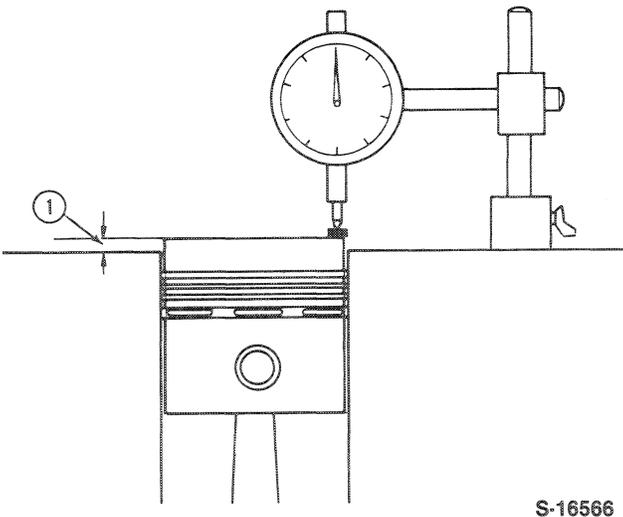

Figure 32
1. Position each of the pistons at top-dead-center and using a dial indicator, determine the distance each piston projects above the face of the block, Figure 32.